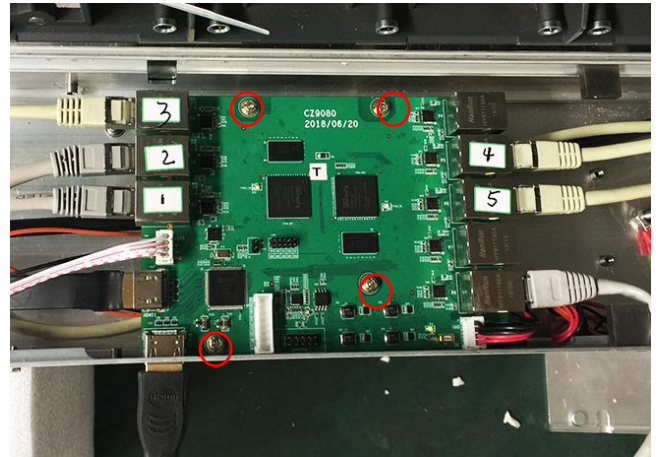

Figure 5.5
- ① Open the front cover of the lower main control box;
- ② Disconnect the cable connected to the malfunction sending card;
- ③ Remove the 4 screws on the sending card, refer to Figure 5.5;
- ④ Use the screws removed in the previous step to install the sending card to the corresponding position;
- ⑤ Reconnect the cable to the appropriate location;
- ⑥ After the all-in-one display is powered on, check whether the display screen is normal. Install the control unit after confirming the display can work normally..